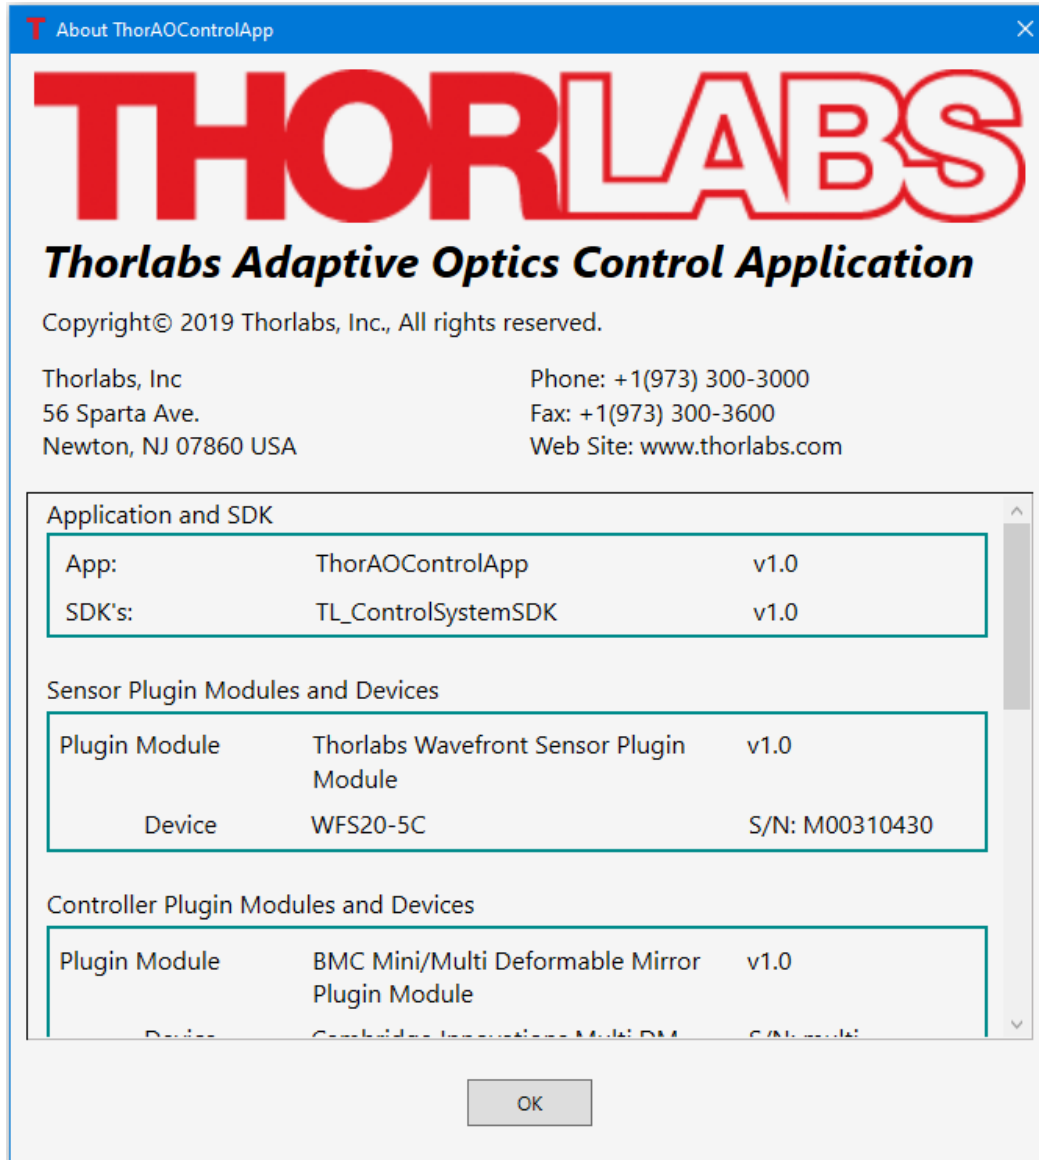

Figure 67 About Window
- **About ThorAOControlApp** (i) –The About window, as shown in Figure 67, gives Thorlabs' contact information and also provides the information about installed software, plugin and extension module version, and the connected devices. When the DM and the SH devices are found, their information, such as model and serial numbers, will be displayed. Please have this information ready when contacting Thorlabs for technical support.